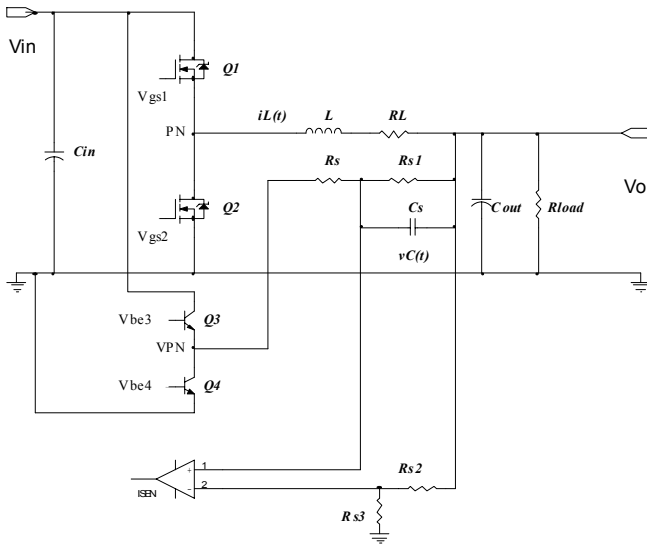

Figure 14. Circuit for setting current-limit different from  $50mV/R_{eq}$
In the application circuit,  $R_{eq} = 9.56m\Omega$  so  $I_{LM} = 5.23A$ . In other applications, different current limits may be required. The circuit in Figure 14 allows the user to set current-limit different from  $50mV/R_{eq}$ .
a) The required current limit  $I_{LM}$  is higher than  $I_{LMcp}$ .  $R_{s3}$  is deleted from Figure 14.  $R_{s2}$  is given by
b) The required current limit  $I_{LM}$  is less than  $I_{LMcp}$ .  $R_{s1}$  is deleted from Figure 14.  $R_s$  is given by